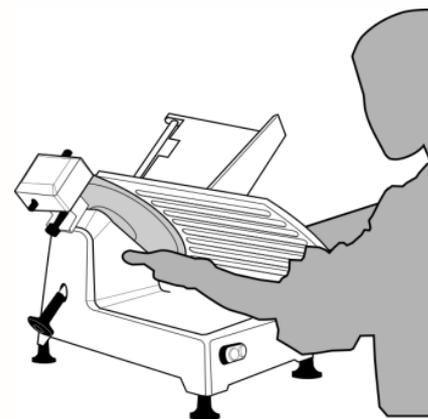

FIG 6. WORKING POSITION
- 5.- Turn on the machine using the On/Off switch (14), the pilot safety light switch gives warning that the slicer is running.
- 6.- Locate in the correct working position (**See Fig. 6**), and now you can start to slice the product; this machine has been designed with a 45° angle so that minimum effort is required to push the product through the cut. For best results, keep knife (5) sharp.
- 7.- When finished, always turn the machine off by using the switch (14) and turn the slice adjusting knob (7) clockwise as far as it will go (be sure that the thickness gauge plate (6) covers the edge of the knife (5) to prevent any possible accident).
- 8.- Replace the grip (9) to its stowed position under the carriage (3).